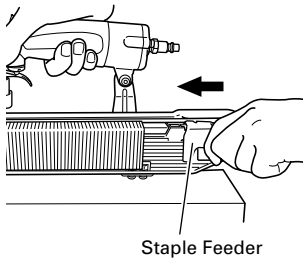

Fig. 4
- (3) Pull the staple feeder backward. Then, detach it from the groove of magazine and softly bring the staple back as if it were being gently pushed, avoiding any impact. (See Fig. 4)